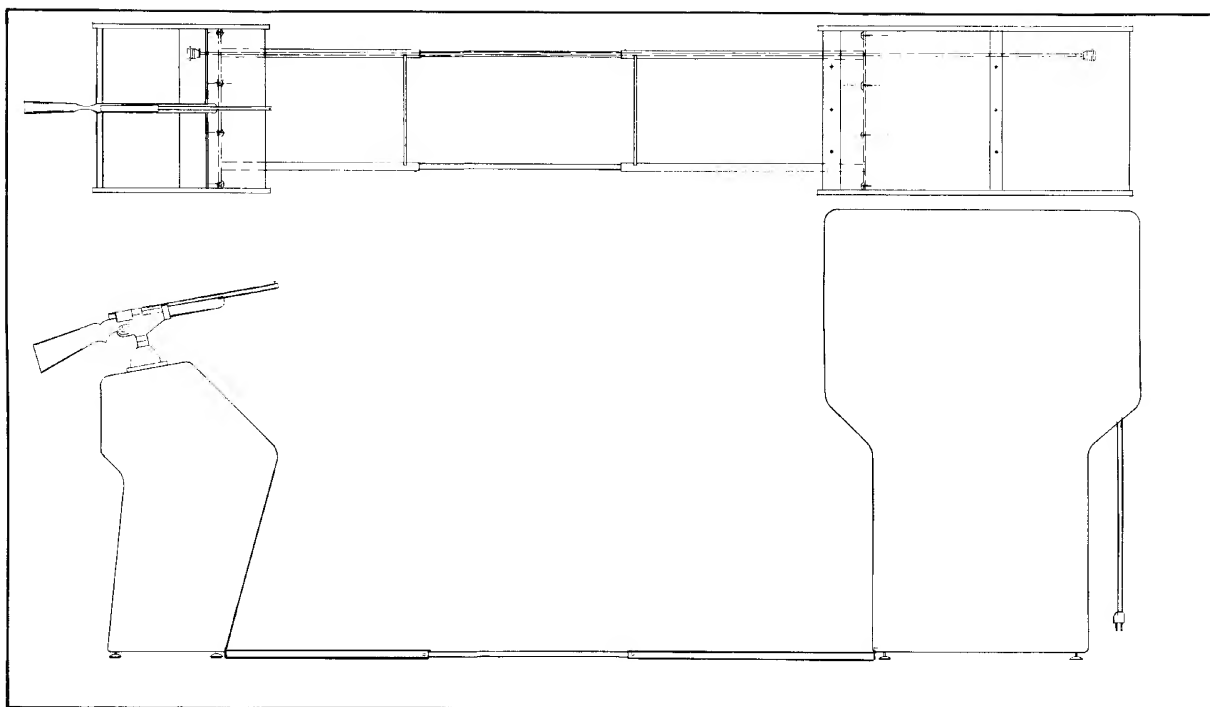

Figure 3 Final Location Setup
- 1) Move the gun mount cabinet and CRT cabinet to their final positions at the game site, and make sure that they are lined up with one another and separated by the desired distance (no closer than 5 ft. and no farther than 10 ft.). Refer to Figure 3 for a view of a final location with the maximum 10 ft. separation.